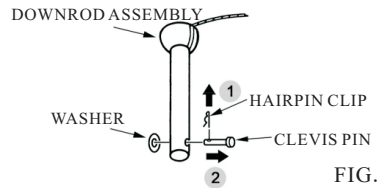

FIG.4
1. Remove the hairpin clip & washer from the clevis pin and remove clevis pin from down rod. (see Fig.4)
Remove the battery compartment cover on the back of the transmitter and insert both batteries provided. Make sure the "+" sign is facing upwards. (FIG.4)